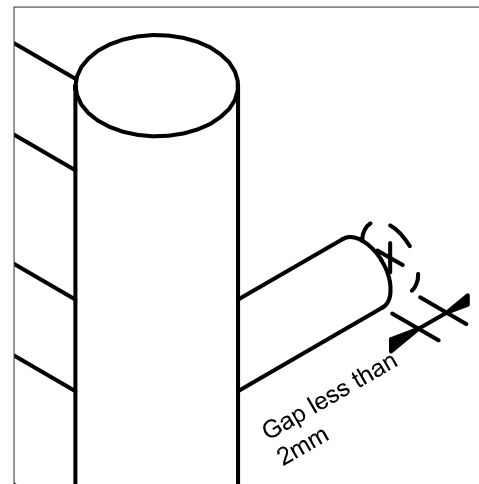

Fig 2.0
- A gap of no more than 2mm is ideal. see Fig 2.0